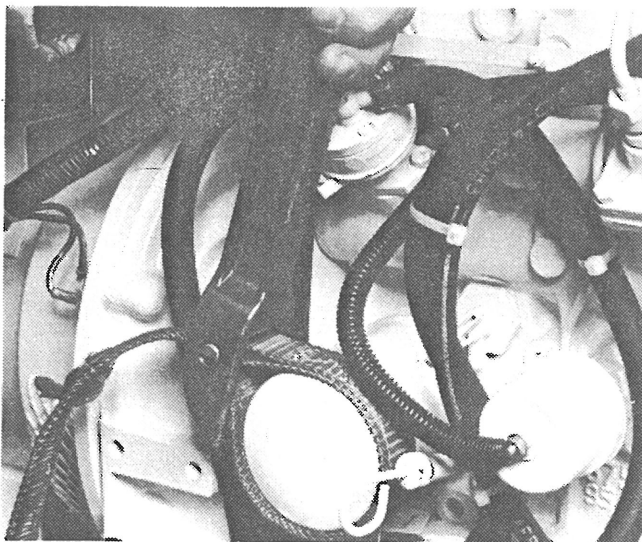

Figure 27 - Changing oil filter, 753
- b. Remove and scrap the oil filters (figures 27 through 30).